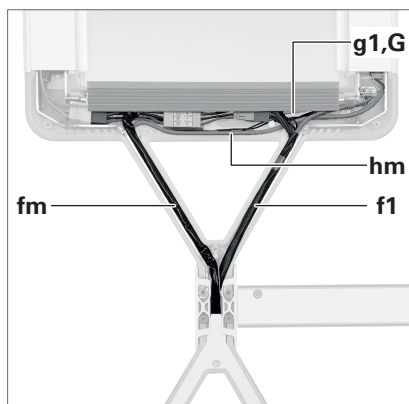

Fig. 23: Stowing the cables.
21. Lay the supply cable **f1** from the cross-bar into the supporting arm of the luminaire head 1, see Fig. 23.